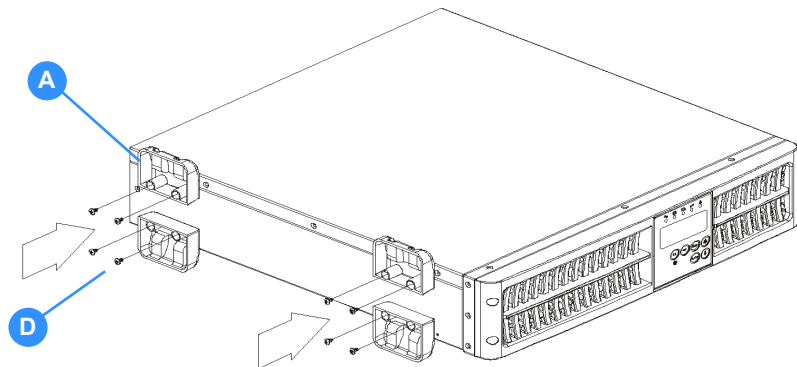

Figure 3.4 Tower assembly
Turn the UPS on its side and, using screws (D) provided, attach the four tower feet (A) to the base of the enclosure as shown in Figure 3.4.